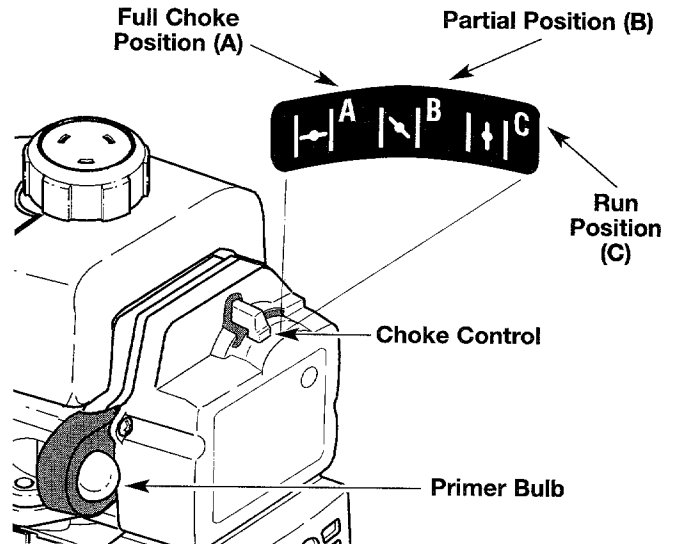

Figure 8
3. Fully press and release primer bulb slowly 5 to 7 times. Fuel should be visible in the bulb. If fuel is not visible, press three (3) more times, or until it is. See Figure 8.
4. Place the choke lever in the FULL choke position (A |←|). See Figure 8.
6. Place the choke lever in the PARTIAL choke position (B |↘|). See Figure 8.
9. Squeeze the throttle control to warm up engine for 5 to 10 seconds. Place the choke lever in the RUN position (C |↑|). See Figure 8.